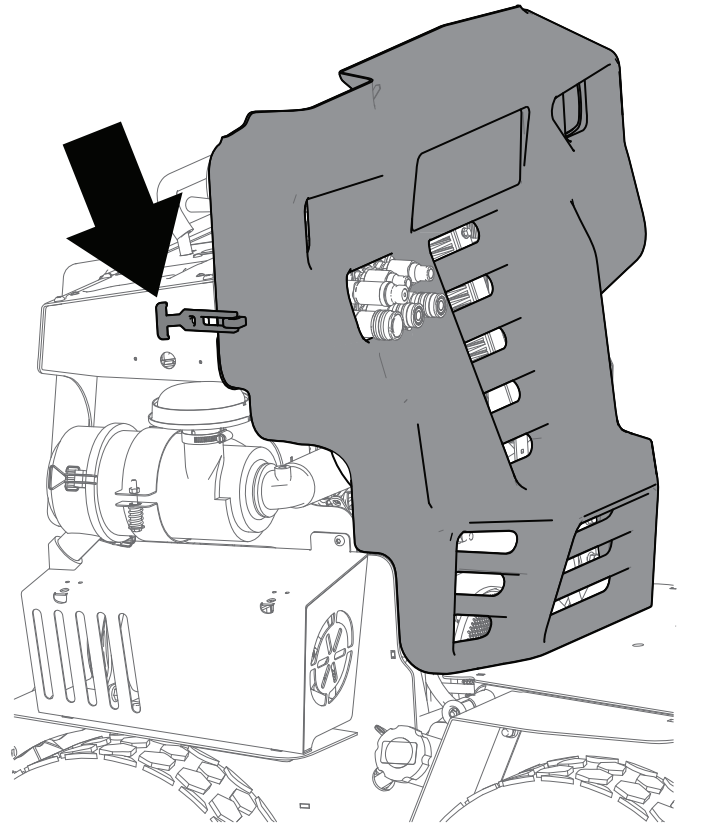

Figure 12
- Remove the front plastic cover (Figure 12).